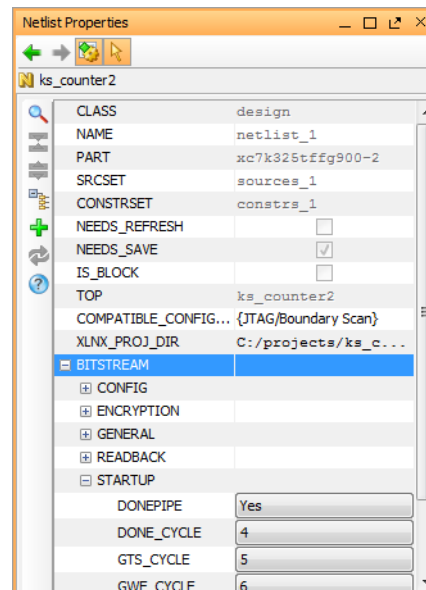

Figure 2-3: Netlist Bitstream Properties
4. In the **Properties** window, locate the **BITSTREAM** properties and set them to the desired values (see Figure 2-3).